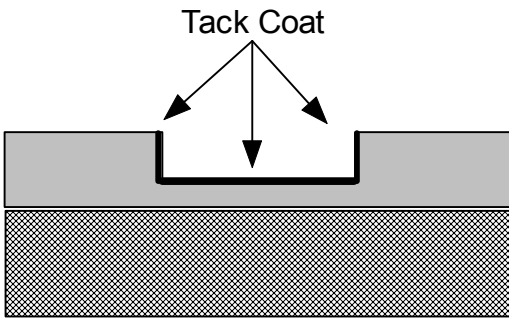

Figure 9: Tack Coat Applied to All Sides of Hole (4)
- Apply a tack coat of asphalt emulsion to the sides and bottom of the hole at a rate of approximately 1 liter/m² (0.2 gal/yd²) of slow or rapid setting emulsion. The tack coat should either be sprayed or brushed on the edges of the repair, never poured. Figure 9 illustrates the tack coat application.